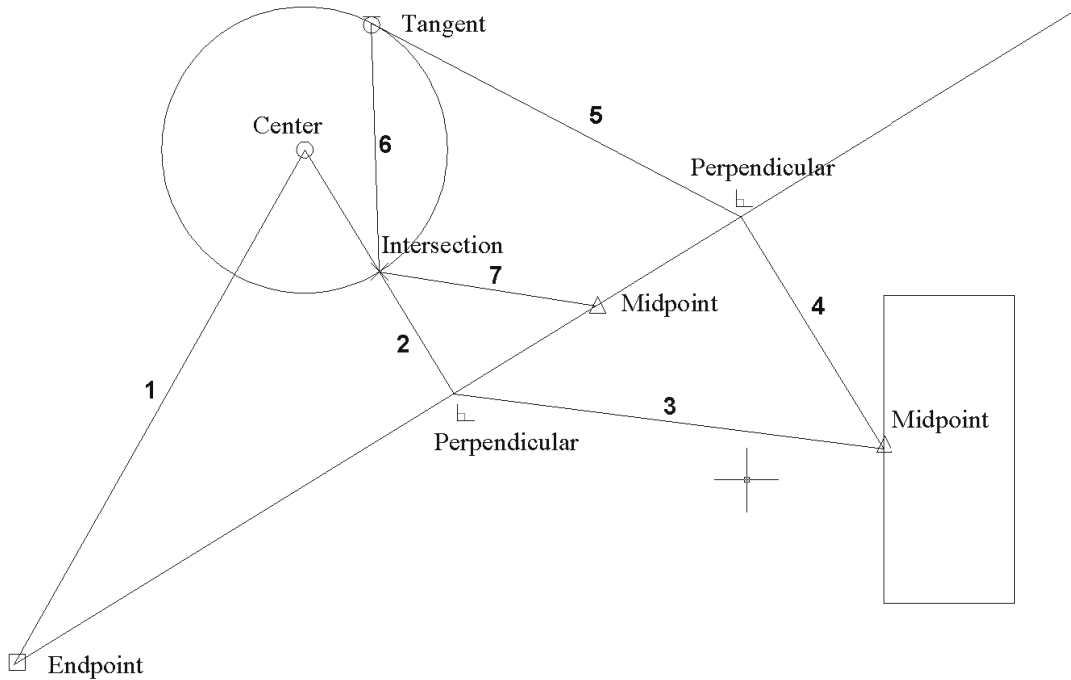

FIGURE 3-2.5 Lines to draw and Snap to use
- Draw the additional lines shown in **Figure 3-2.5** using the appropriate *Object Snap*, changing the selected Snaps as required to select the required points.